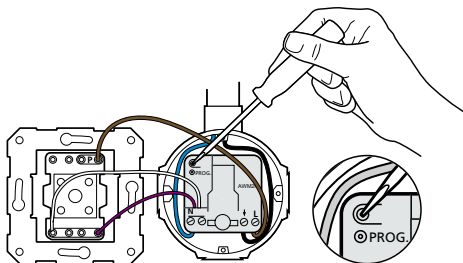

Figure 5
- Press the setup (prog.) button for at least 3 seconds (see figure 5). The LED should stay on after releasing the setup button.